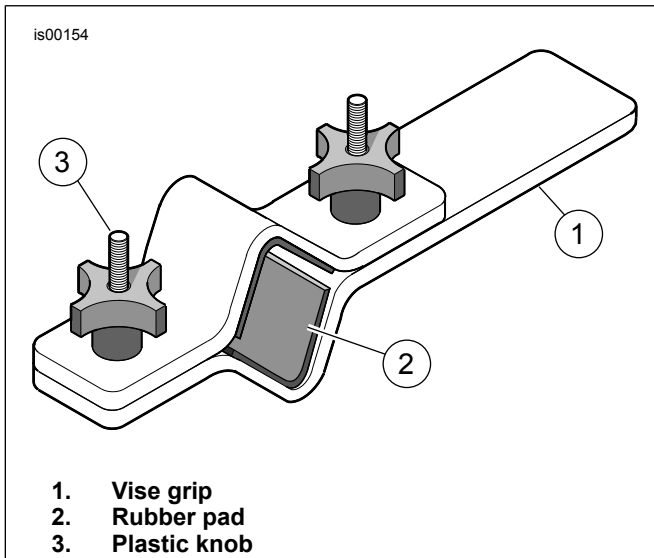

Figure 1. Fork Tube Holder (HD-41177)
1. See Figure 1. Install fork in Fork Tube Holder (HD-41177) as follows:
- a. Clamp end of tool (1) in vise in a horizontal position.
2. See Figure 1. Install fork in Fork Tube Holder (HD-41177) as follows: